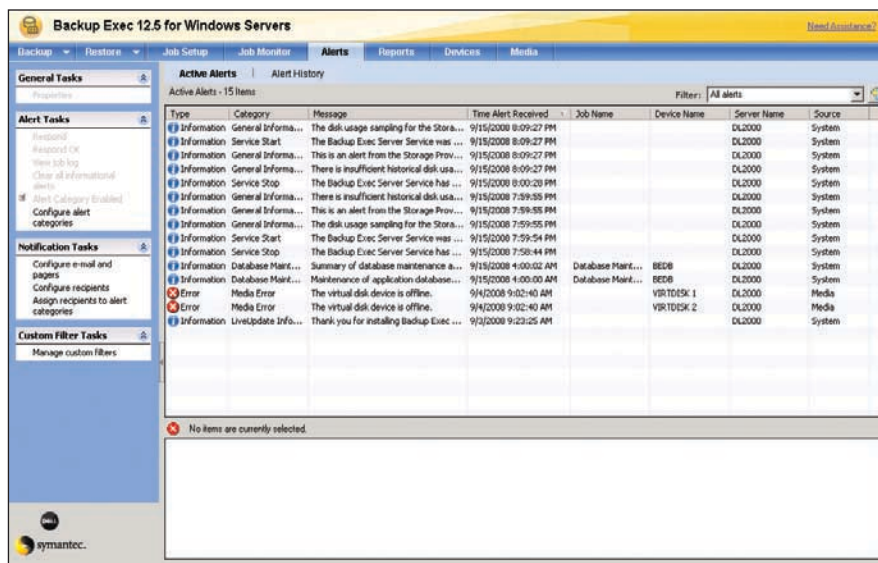

Figure 2. Integrated alerting helps administrators easily monitor backup and restore operations
- **Simplified alerting:** Administrators no longer need separate interfaces to evaluate component health—instead, a single console provides integrated alerting for backup destinations (see Figure 2). The system can send alerts when available disk space reaches each of three thresholds administrators can specify for a virtual disk. These alerts help prevent jobs from failing because of low disk space on a virtual disk.